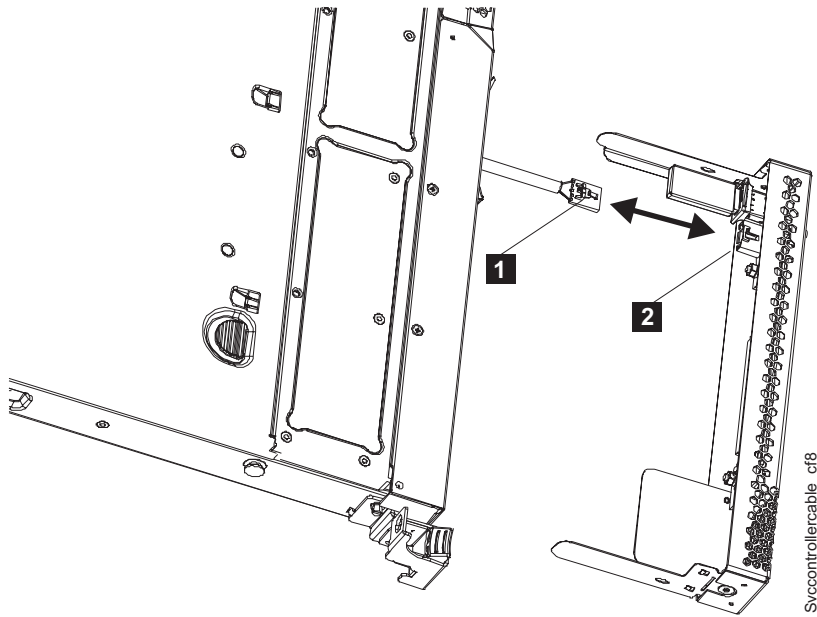

Figure 74. Removing and replacing the USB cable in the SAN Volume Controller 2145-CG8 or 2145-CF8 service controller
- a. Disconnect the USB cable (**1** in Figure 74 on page 93) from the service controller (**2**).
- d. Install the other end of the USB cable in the USB connector (**2** in Figure 74 on page 93) on the rear of the service controller.